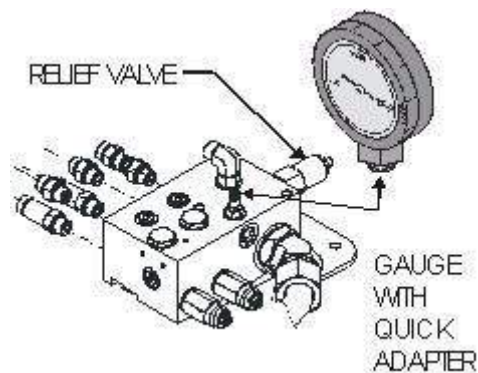

Figure 3-4 Setting Steering Pressure
6. Connect the pressure check kit quick-coupler (female end) to the coupler (male end) on the pressure relief valve. (See Figure 3-4)